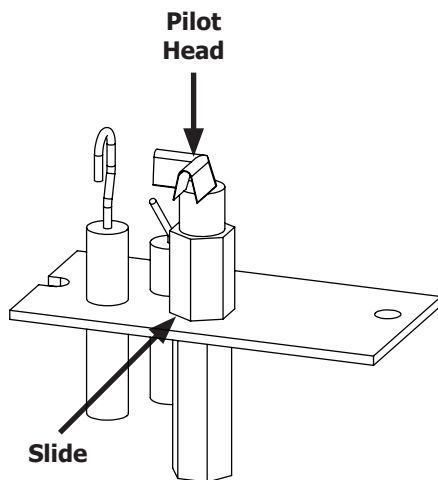

Figure 21: Pilot Assembly
4. Convert the existing pilot orifice using a 7/16 inch wrench. Loosen the pilot head and move the orifice slider to the opposite side. A red dot on the exposed side will indicate the pilot is set to LP. Retighten pilot, if head does not reach proper orientation in the snug position then contact your Enviro dealer (see Figure 21).